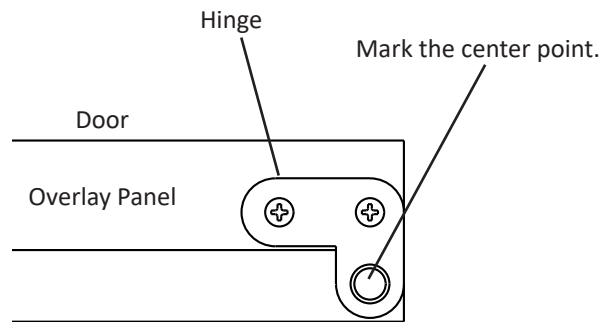

Fig. 19
- 10) Mark the center point of the hinge (C1) and hinge (C2) holes that extend over the overlay panel. See Fig. 19.